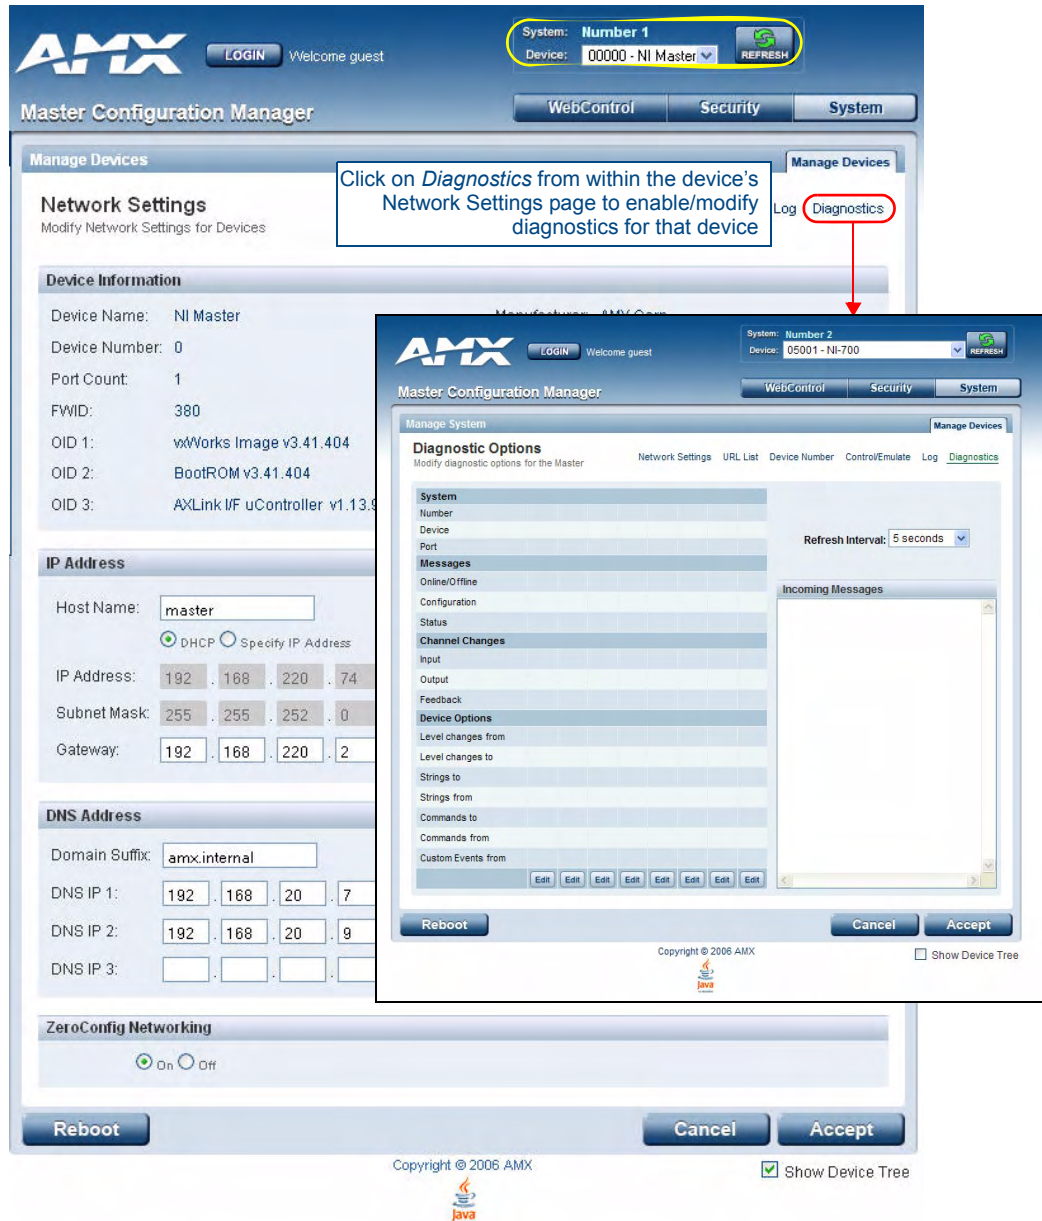
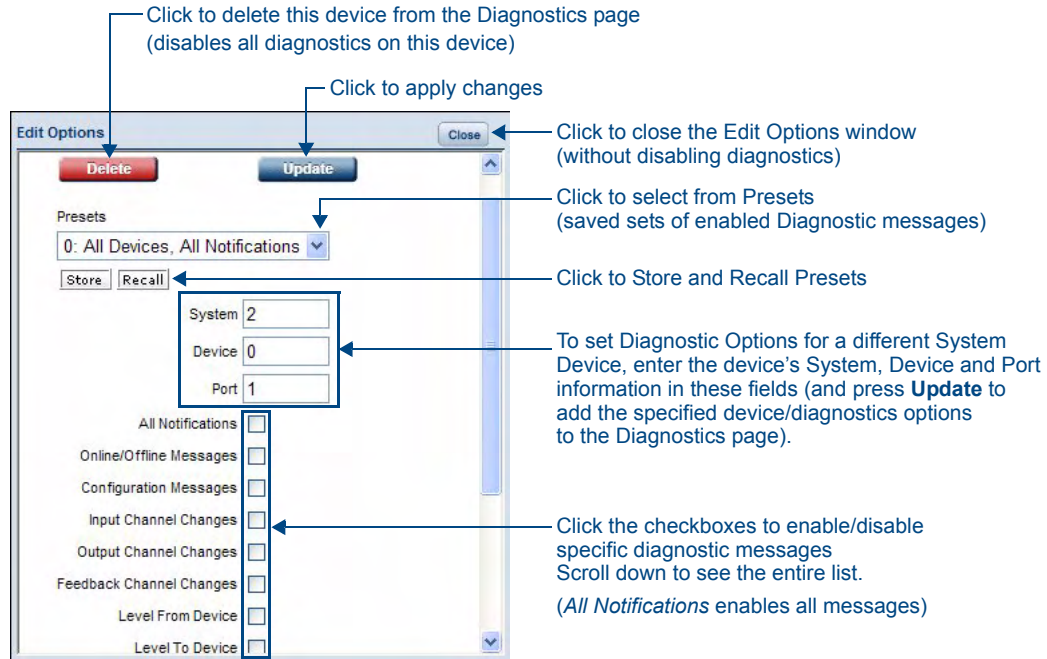

FIG. 5 Select Diagnostics from within a selected Device's Network Settings page
FIG. 6 Edit Options window
- b. In the Device Tree, click on the Information (*i*) icon for the device for which you want to enable or modify Diagnostics options. This opens a Network Settings page showing detailed information on the selected device (including network configuration details). An example Network Settings page is shown in FIG. 5:
- c. Click on the **Diagnostics** link. This opens a Diagnostics Options page for the selected device (FIG. 5).
2. By default, all diagnostics are disabled (see FIG. 5). To enable diagnostic messages from this device, click on one of the **Edit** buttons along the bottom of the Diagnostics Options table. This opens the Edit Options window (FIG. 6), where you can select which Diagnostics messages to enable or disable for this device. Once you have selected the diagnostics messages to enable, click **Update** to apply your changes, close the Edit Options window, and return to the Diagnostics page. Refer to the *Diagnostics Options Definitions* section on page 49 for definitions of each Diagnostic option.